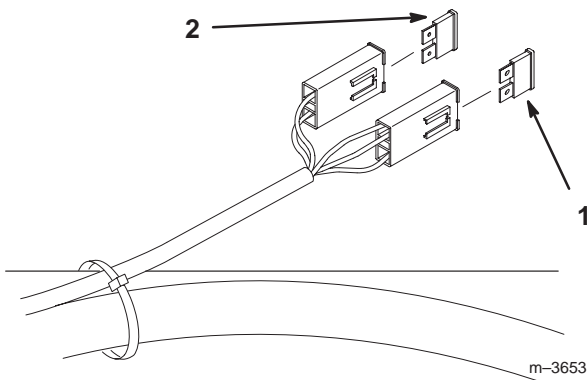

Figure 57
1. Raise the seat to gain access to the fuse holder (Fig. 57).
2. To replace the fuses, pull out on the fuse to remove it (Fig. 57).